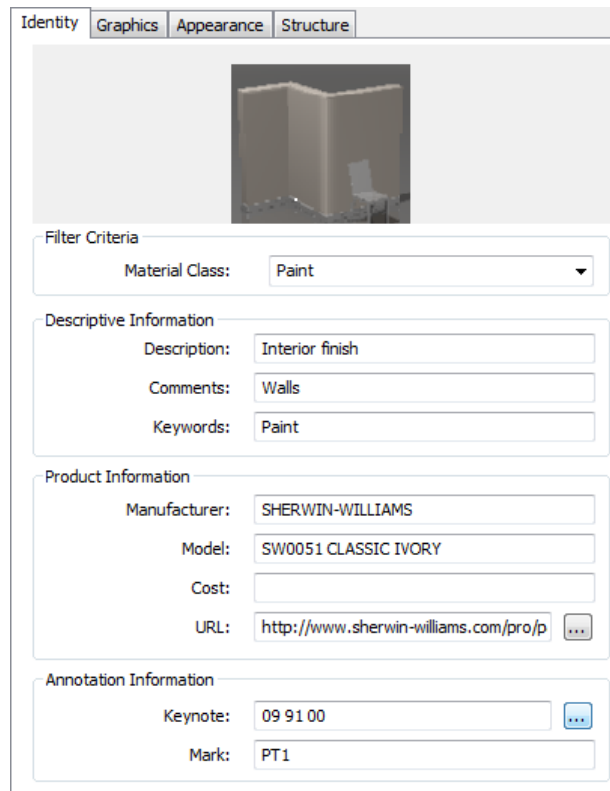

FIGURE 4-3.13 Materials dialog; Identity tab for PT1
39. Fill out the **Identity** tab using the information from the website as shown in Figure 4-3.13.